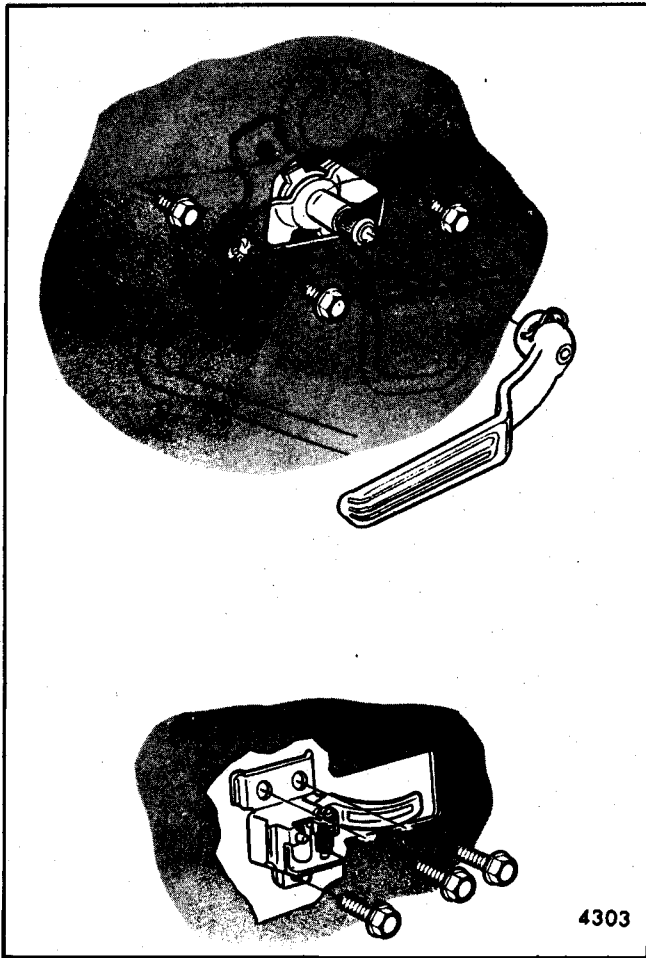
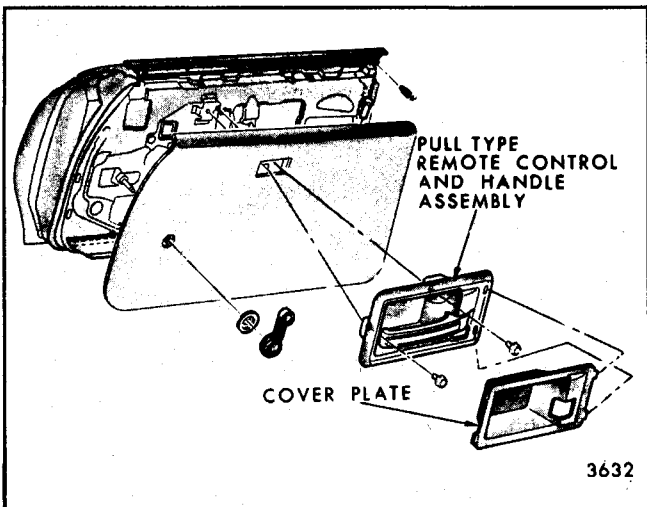

Fig. 13-7-Typical Door Lock Remote Control Handle Installations
Fig. 13-8-Typical Door Lock Remote Control and Handle Assembly Installation
Door and quarter inside handles are retained by either screws or spring clips (Figures 13-7, 13-8 and 13-9). On styles equipped with screw retained handles, the screws are either exposed or covered by a remote control cover plate that can be removed as shown in Figures 13-8 and 13-10).
1. On styles with clip retained handles, clip is either exposed when arm rest is removed, or else is hidden by handle (Figs. 13-7 and 13-9). Exposed clips can be disengaged from remote control spindle with a screwdriver.
6. On styles with remote control cover plates (Figures 13-8 and 13-10), remove exposed screws securing cover plate to door inner panel.